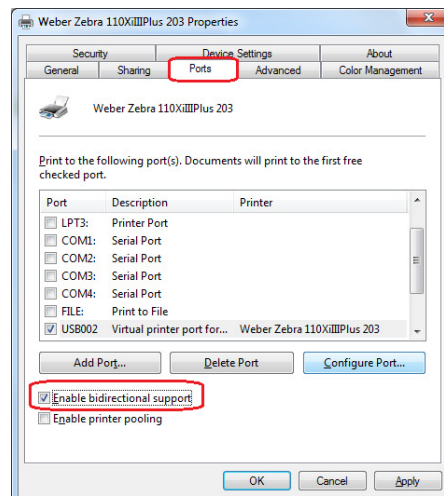

Figure 19
15. **Uncheck** the Enable Bidirectional Support option (near the lower left). (Figure 19)